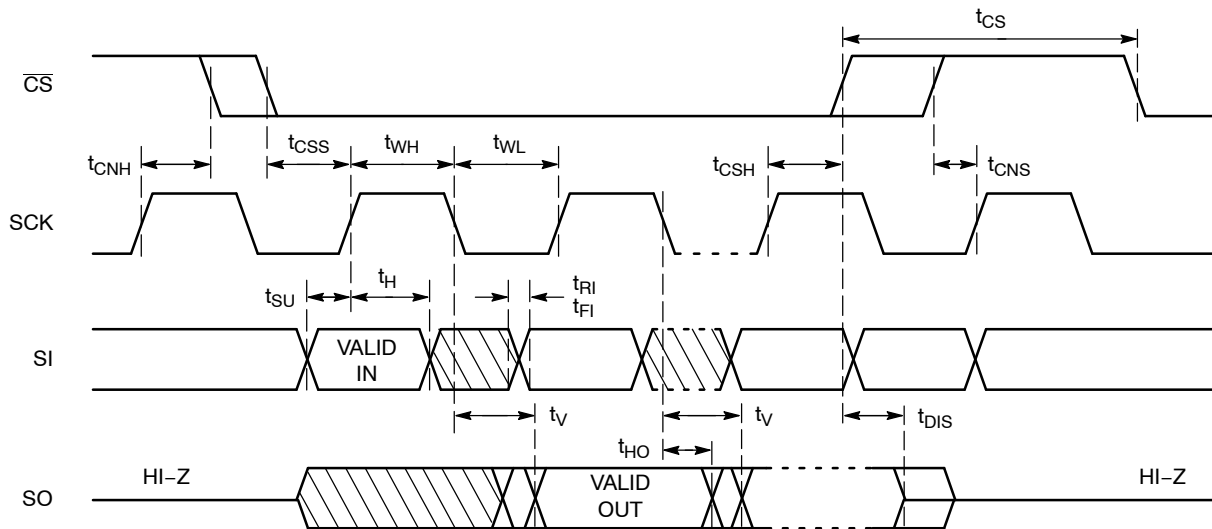

Figure 2. Synchronous Data Timing
7. **All Chip Select (CS) timing parameters are defined relative to the positive clock edge (Figure 2). t_{CSH} timing specification is valid for die revision C and higher. The die revision C is identified by letter "C" or a dedicated marking code on top of the package. For previous product revision (Rev. B) the t_{CSH} is defined relative to the negative clock edge (please refer to data sheet Doc. No. MD-1127 Rev. B).**
After a high to low transition on the \overline{CS} input pin, the CAT25256 will accept any one of the six instruction op-codes listed in Table 7 and will ignore all other possible 8-bit combinations. The communication protocol follows the timing from Figure 2.